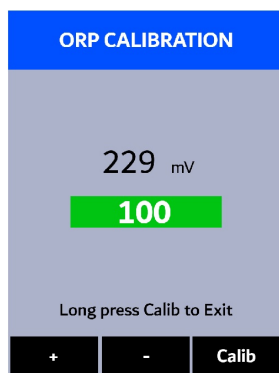

Figure 47.
6. Use + () and - () to adjust the ORP value to match the ORP standard used (Figure 47).